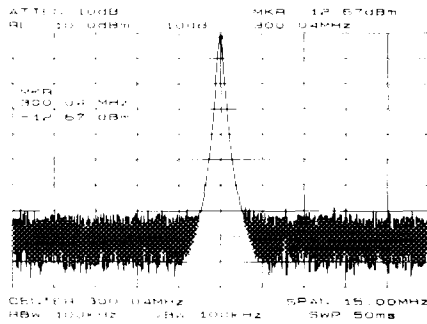

Fig.4.11. Input signal displayed in a 15 MHz span.
1. Using the present setup, clear the markers from the screen: press **OFF**. To measure the fundamental, press **PEAK SEARCH**. Move the fundamental to the center frequency; press **PEAK SEARCH** and the softkey SIG TRK ON. Reduce the frequency span to 15 MHz by pressing **SPAN** **1** **5** **MHz**. The signal track function allows you to quickly “zoom” to a narrower span without losing the signal from the screen. After the span is reduced, turn off the signal track function. Next, set the center frequency step size to 300 MHz by pressing **MKR** **→** and **MKR** **→** **CF STEP**. The resulting display should resemble Figure 4.11.